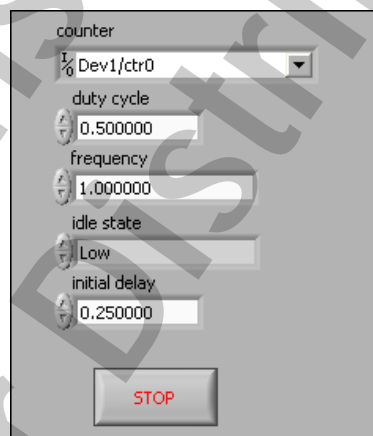

Figure 6-10. Pulse Train Generator VI Front Panel
3. Arrange the front panel controls as shown in Figure 6-10.
- ☐ On the Pulse Train Generator VI, set the front panel controls to the following values as shown in Figure 6-10.